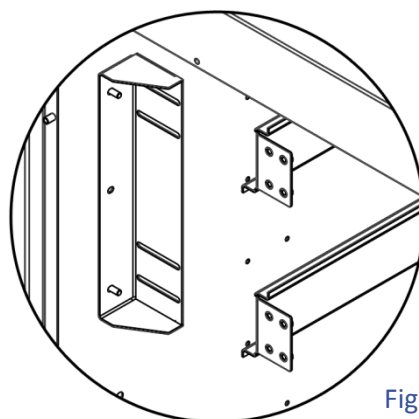

Figure 10
- To Lower: Loosen the fittings, rotate the bracket, lower and fasten to increase the distance between the display and the window (figure10).